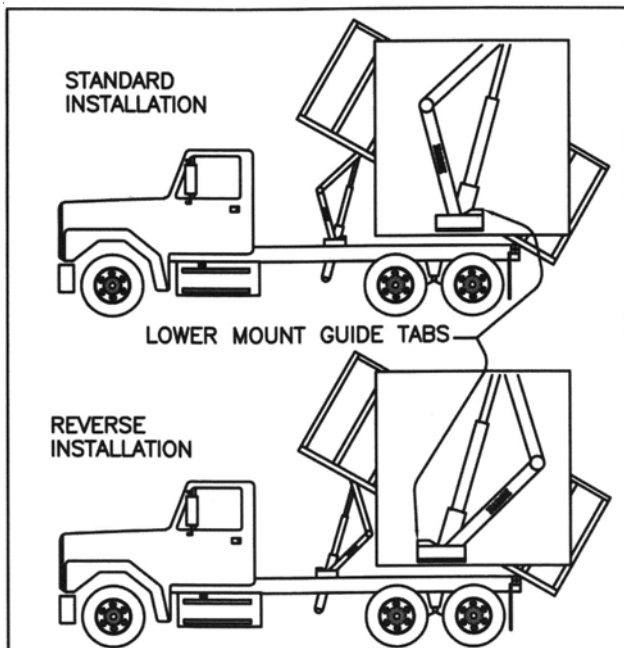

Figure 5A: Lower Mount Guide Tabs
3. Insert lower frame mounts into hoist frame. Make sure the bed guide tabs of the lower mount are facing away from the scissor hinge (see figure 5A).